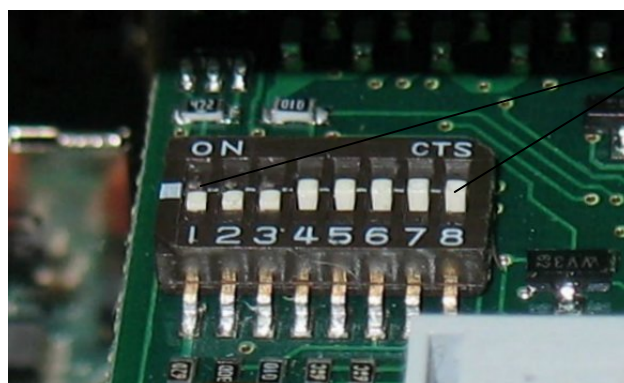

Fig. 35: DIP1-DIP8 switches (shown with factory settings)
5. Locate the DIP switches into the unit (refer to Fig. 35).